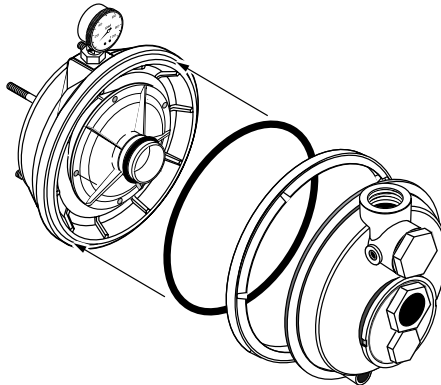

Figure 11
2. Put O-Ring in groove on face of seal plate; put pump halves together (See Figure 11).